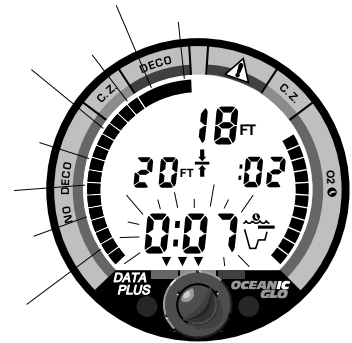

Fig. 60 - Delayed Violation (> 5 min above stop ceiling)
- 1. You remain Above the Required Decompression Ceiling Stop Depth for more than 5 minutes (Fig. 60).** As previously described, you